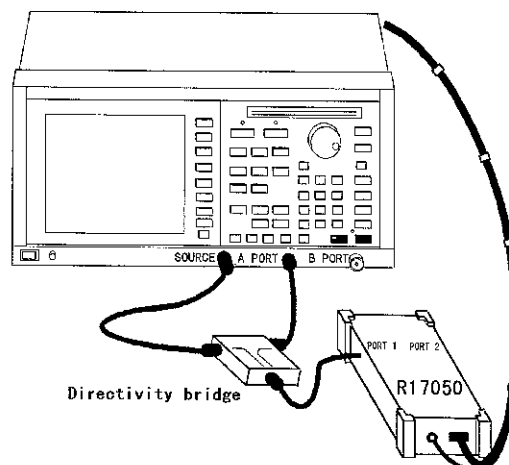

Figure 2-6 RF Port Connection
2. Connect the RF ports of the instrument to the test ports of the network analyzer (see Figure 2-6), using the cable that is actually used to measure the DUT. The RF port of the instrument has no directivity. Feel free to select port combinations.